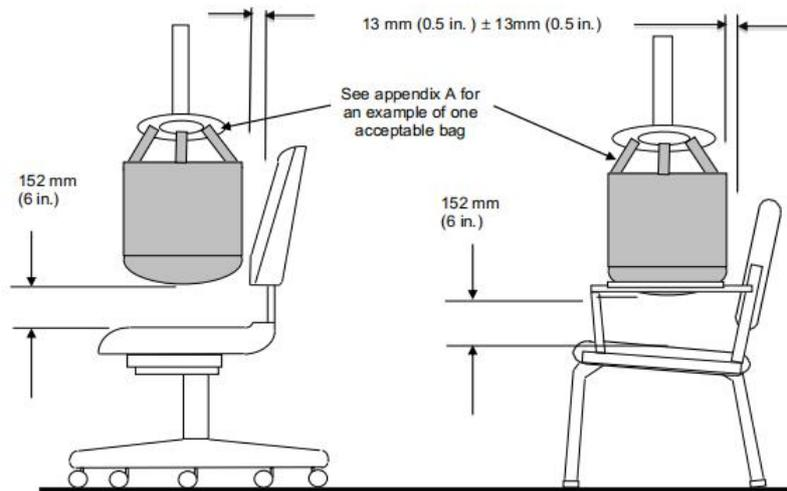

Figure 7 - Drop Test - Dynamic
a) The test bag shall be raised 152 mm (6 in.) above the uncompressed seat and released one time. The free fall distance shall be measured at the center of the drop bag. (See Figure 7).